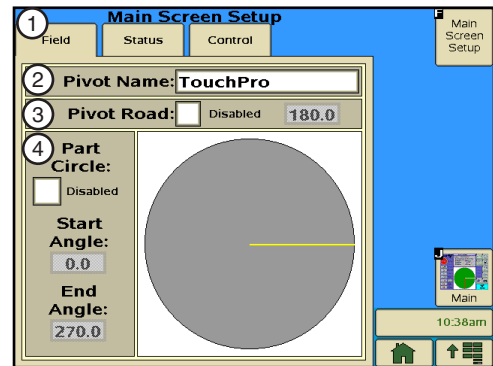

Figure 18-3 1. Field Tab
1. To set the pivot name, Push **Setup, Main Screen Setup, Field** to display the field settings. Refer to Figure 18-3.
1. To enable the pivot road and set the position, Push **Setup, Main Screen Setup, Field** to display the field settings. Refer to Figure 18-3.
1. To enable part circle pivot and set the start and end angles, Push **Setup, Main Screen Setup, Field** to display the field settings. Refer to Figure 18-3.